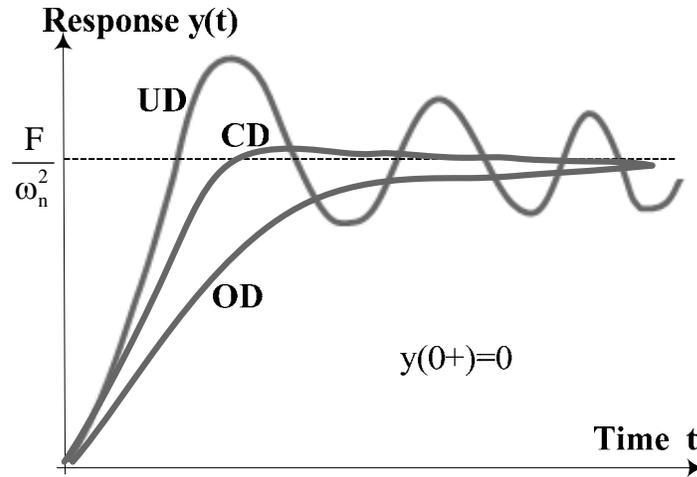

Figure 4.2: Second-order transient (step) responses
The three response types are shown in Figure 4.2 for a second-order circuit which has a zero initial condition and a positive DC steady state value. The OD and CD responses shown are similar to an ‘exponentially rising’ first-order response. The UD response, however, is characterized by an ‘overshoot’ ; it is a response which oscillates around the steady state value before settling down. The UD response, which is the fastest of the three response types, has important engineering applications.
RLC Circuit: Figure 4.8(c) shows a series-RLC circuit, in which the step response of V_c is of the type shown in Figure 4.2. For the circuit $\alpha = R/2L$ and $\omega_n = 1/\sqrt{LC}$, so that for critical damping (CD), $\alpha = \omega_n$ gives the result $R = R_c = 2\sqrt{L/C}$, and R_c is called the Critical Resistance. For $R < R_c$, the circuit response will be under-damped (UD) and for $R > R_c$ the response will be over-damped (OD)